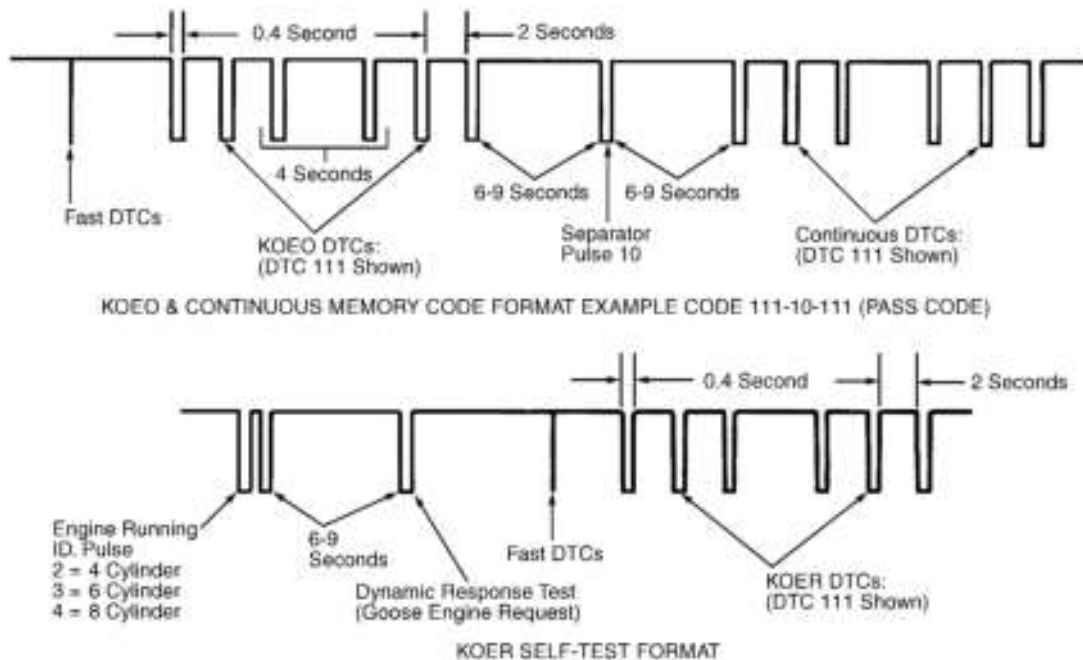

Fig. 3: Reading Diagnostic Trouble Codes (DTCs)
If using analog VOM, pay careful attention to length of pauses in order to read codes correctly. A 1/2-second pause occurs between number of sweeps in a digit. A 2-second pause occurs between digits in a code. A 4-second pause occurs between each code. KOEO codes are separated from Continuous Memory codes by a 6-second delay, a 1/2-second sweep (separator) and another 6-second delay. See **Fig. 3**. If using MIL light, DTCs are displayed as flashes.
Scan tool, if used, will count pulses and display them as a digital code. STAR Series Tester will add a zero (0) to single-digit Separator Code (10) and Dynamic Response Code (10). Dynamic Response Code is displayed in KOER SELF-TEST. See **Fig. 3**.
Engine ID codes are issued at beginning of KOER SELF-TEST. Codes are one-digit numbers represented by number of pulses displayed. See **Fig. 3**. Engine ID code is equal to one-half the number of engine cylinders. For example, 2 pulses would indicate that engine is a 4 cylinder. ID code is used to verify proper PCM is installed and that SELF-TEST has been entered.